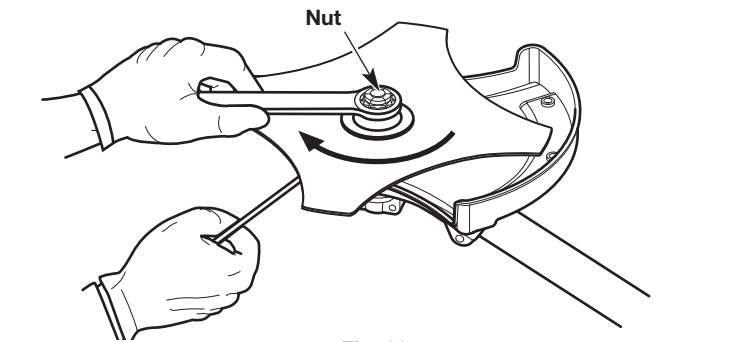

Fig. 28
3. Hold the locking rod in place (Fig. 28).
4. While holding the locking rod in place, unscrew the nut by turning it clockwise with a wrench (Fig. 28).